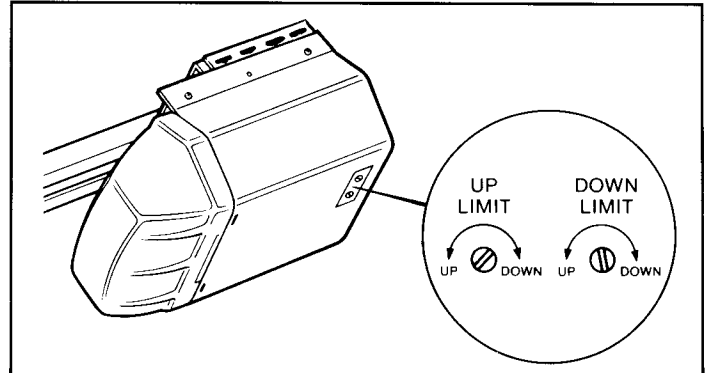

Figure 20
Step 45: To increase the "up" distance, turn the slotted "Up Limit" screw in the counterclockwise direction (see Figure 20). Note that each turn is equal to approximately one inch of door travel. Then estimate the number of turns required.
Step 47: To increase the "down" distance turn the slotted "Down Limit" screw in the clockwise direction (see Figure 20). Note that each turn is equal to approximately one inch of door travel. Then estimate the number of turns required.
Step 54: If the door stops after encountering the obstruction, it is an indication that the down limit needs to be adjusted. Turn the down limit screw 1 or two turns in the down direction (see Figure 20). Keep in mind that the door arm should not pass the vertical position.